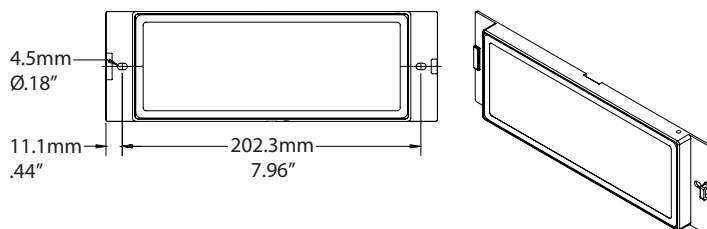

FIG. 4
1. Using Fixture Light Engine Assembly (**Fig.3**), mark center point of thru hole that will be drilled to feed lead wire from fixture through wall or step (**Fig. 4**). Lead wire is located on center of fixture.